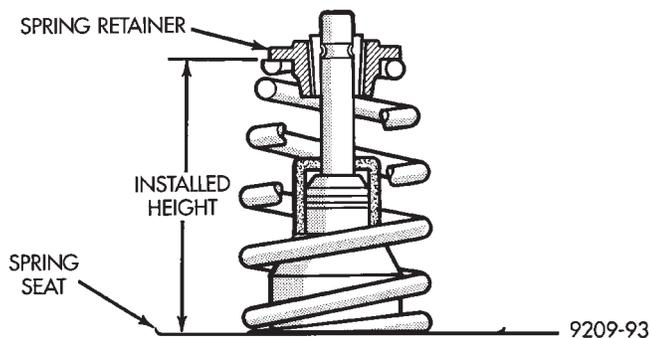

Fig. 24 Checking Valve Installed Height
(5) Check the valve spring installed height after refacing the valve and seat (Fig. 24).
(2) If valves or seats are reground, check installed valve spring height (Fig. 24).
(3) Install new cup seals on all valve stems and over valve guides (Fig. 24). Install valve springs and valve retainers.
(4) Compress valve springs with Valve Spring Compressor Tool C-3422-B, with adapter 6412 install locks and release tool. **If valves and/or seats are reground, measure the installed height of springs, make sure measurements is taken from top of spring seat to the bottom surface of spring retainer. If height is greater than 1-19/32 inches, (40.6mm), install a 1/32 inch (.794mm) spacer in head counterbore to bring spring height back to normal 1-17/32 to 1-19/32 inch (39.1 to 40.6mm).**